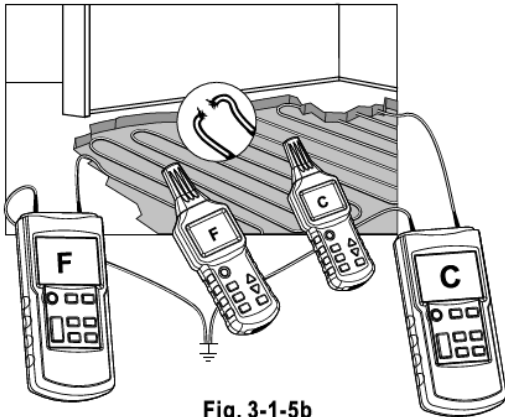

Fig. 3-1-5b
- Connect both transmitters (if two will be used) as shown in Fig. 3-1-5b.